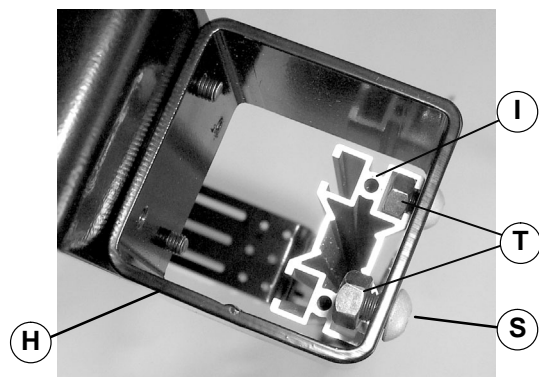

Figure 9
13. Align two hex nuts (T of Figure 9) on each leg support bracket (H) to t-slots at top, outside of stand legs (I). Slide leg support brackets down stand legs until top of stand/conveyor mounting bracket (G) is approximately the same height as the bottom of conveyor. Tighten four button head screws (S) just enough to keep leg support brackets in position.